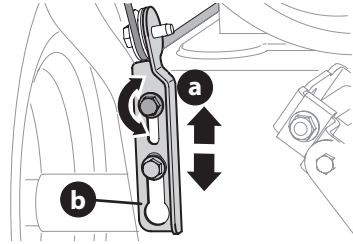

Figure 47
4. Allow auger to remain engaged for approximately ten (10) seconds before releasing auger control lever. Repeat this several times.
7. To readjust the auger control cable, loosen upper hex screw (a) (Figure 47).
8. Position auger control bracket (b) upward to provide more slack in cable (Figure 47).